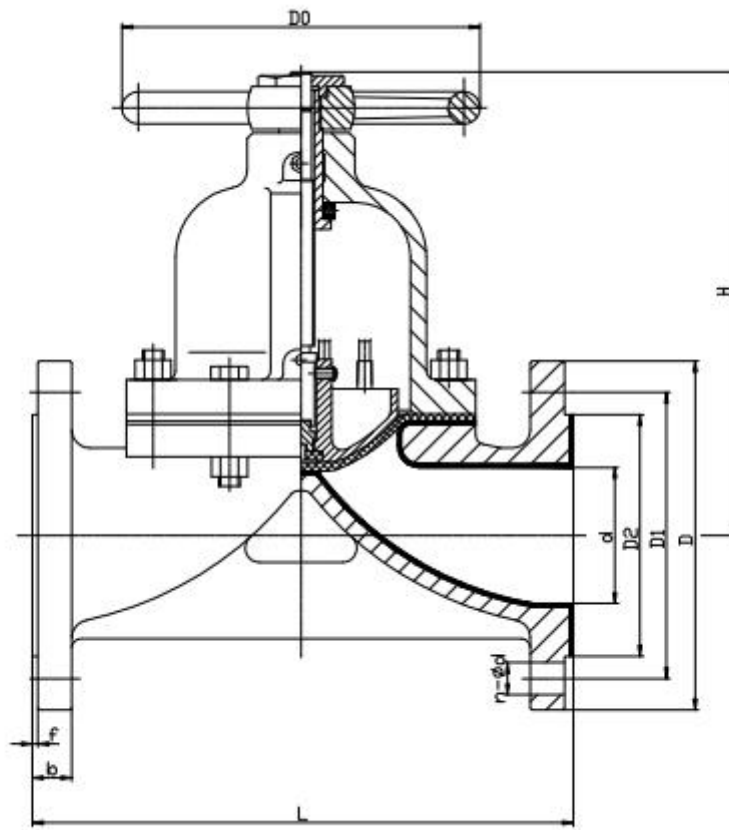

Figure 1 Diaphragm Valve Structure
3. This valve is composed of body, bonnet, stem, valve disk, diaphragm, and drive components. The basic structure is shown in Figure 1.